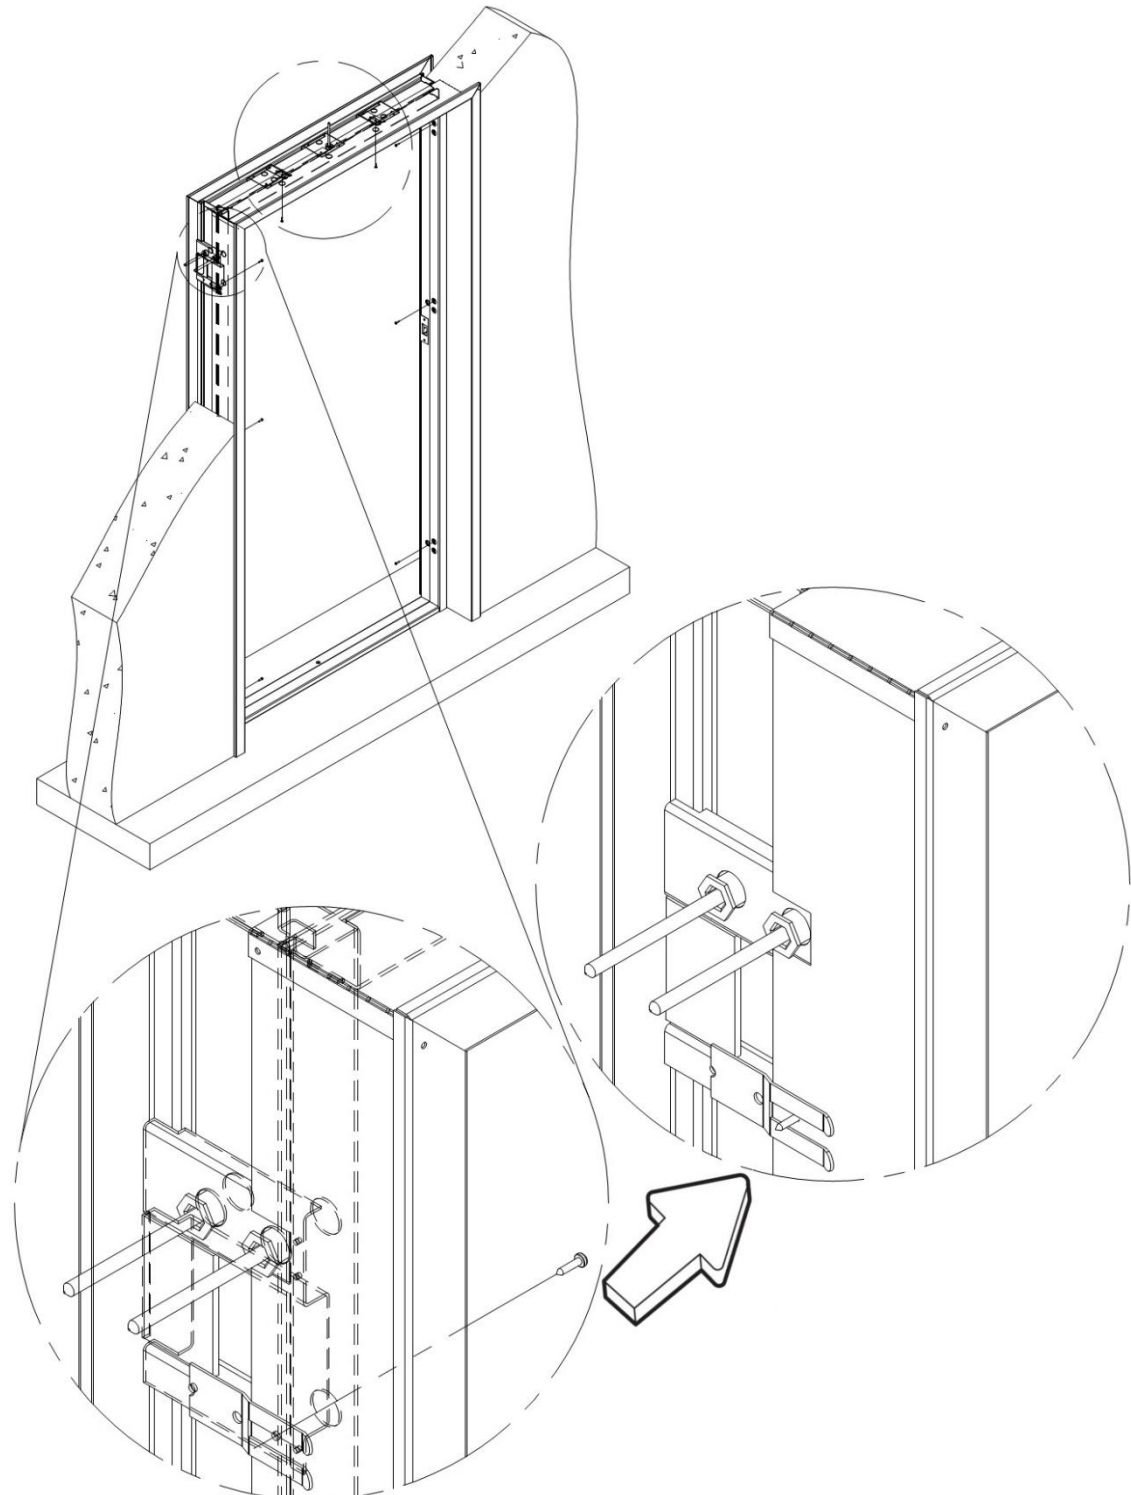

Figure 2.4 Fixing counter frame to the jamb.
- Using $\text{Ø}4,2$ mm self-drilling screws, fix the counter frame to the jamb through premade holes in the jamb and jamb plates. The counter frame is going to rest between the jamb edge and catchers. Make sure the counter frame is aligned properly. (Figure 2.4, 2.5)